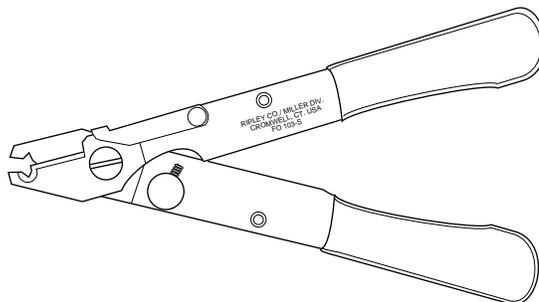

Figure 1
**1.1** This procedure describes how to use a Corning Cable Systems fiber stripping tool, part number 3205004-01 (Figure 1).